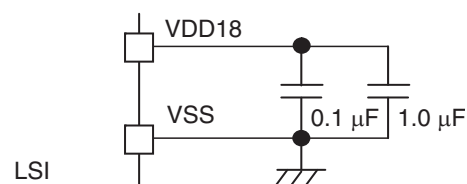

Figure:1.5.1 Capacitor Connection between V_{DD18} and V_{SS} Pins
*3 Connect appropriate capacitor about $0.1\text{ }\mu\text{F} + 1.0\text{ }\mu\text{F}$ between V_{DD18} pin and V_{SS} pin, near the microcontroller according to the Figure:1.5.1 shown below for the internal power supply stabilization.